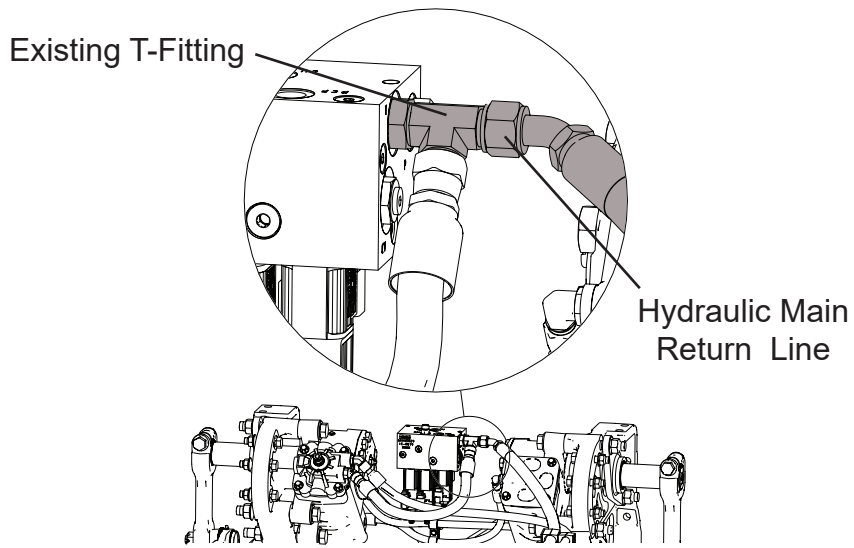

Figure 3
12. Disconnect the main hydraulic return line from the existing t-fitting on the side of the hydraulic manifold. See Figure 3.